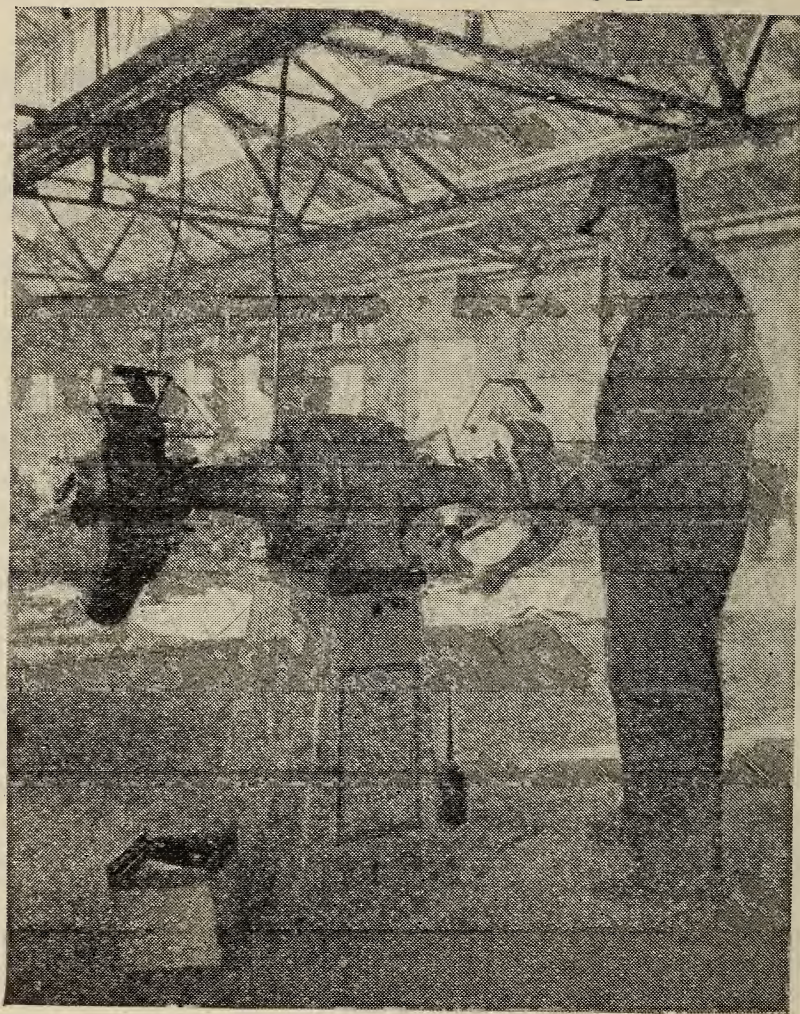

FIGURE 64.—Grinding wheels should be enclosed as completely as possible, and glass shields or goggles used to safeguard the eyes.
A. Serious injury may be caused to the eyes. (See fig. 64.)